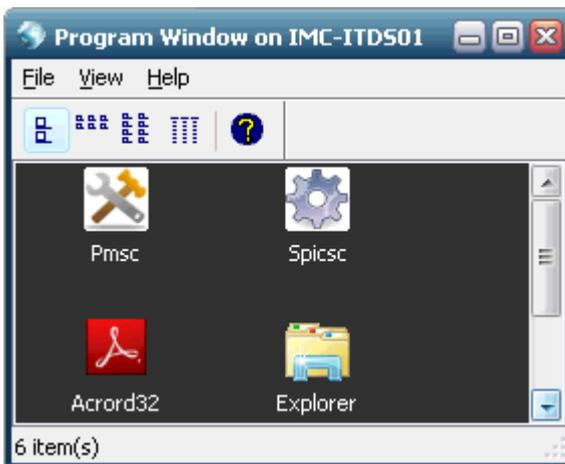

Fig.3-1-5 Program Window on IMC-ITDS01
(1) Double-click "Spicsc" icon on "Program Window on IMC-ITDS01" (Fig.3-1-5).